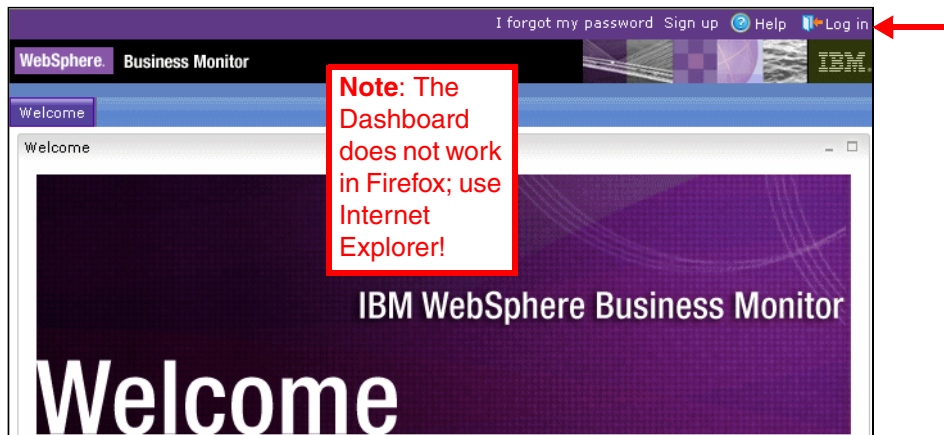

Figure 14-56 WebSphere Portal login screen
- ▶ Login to WebSphere Portal administrative console (Figure 14-56):